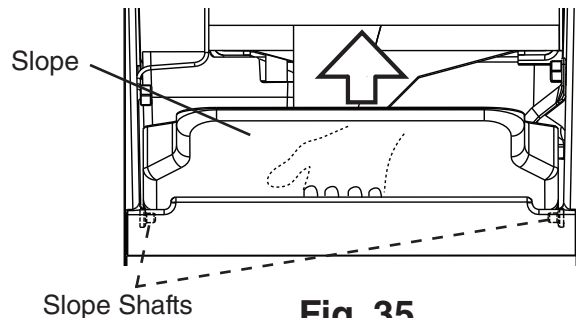

Fig. 35
- 2) Remove the slope from the storage bin by carefully bending it in the center and releasing it from the 2 slope shafts. See Fig. 35.